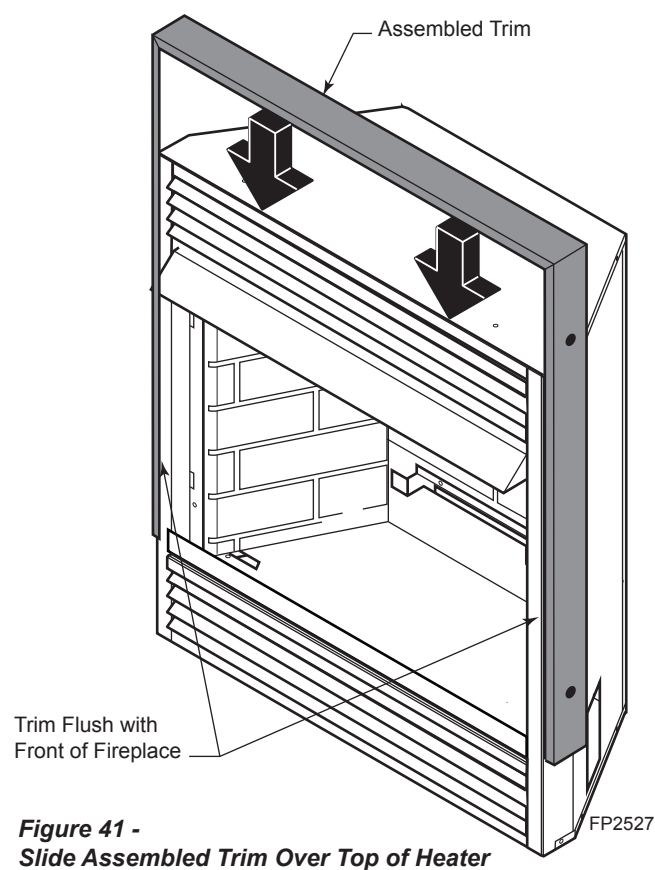

Figure 41 -
6. Slide assembled trim over the top and down the sides of the fireplace. Flush trim with front of fireplace as shown in *Figure 41*.